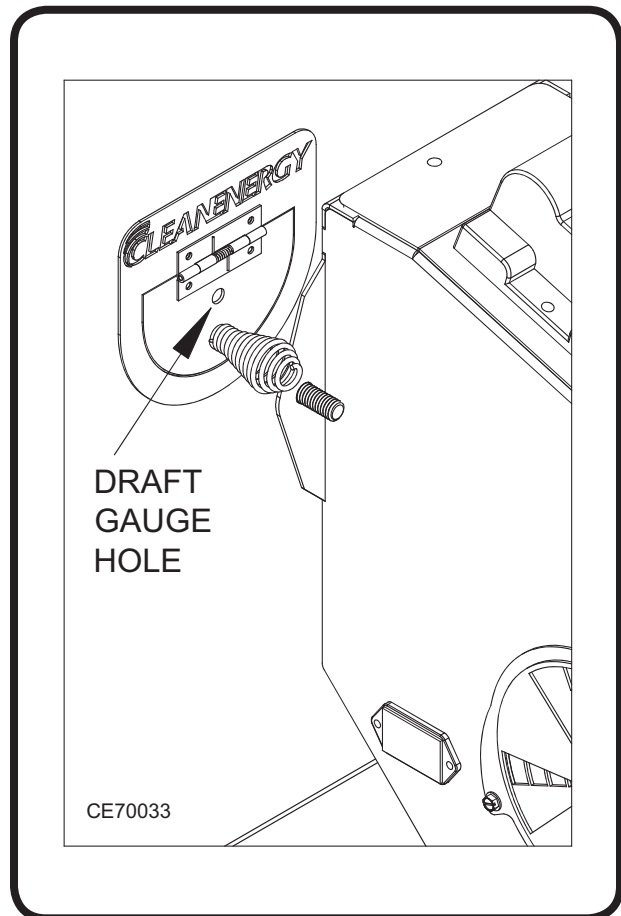

Figure 27: Draft Gauge Hole in the Observation Port
- (1) Allow the furnace to run for 5 to 10 minutes.
- (2) Refer to Figure 27 to locate the draft gauge hole.
- (3) Insert a draft gauge through the hole in the observation port. Follow the manufacturers instructions for adjusting the barometric damper to obtain -0.02" w.c. draft over fire.
- (4) If a proper draft is not obtained, follow the instructions below to check for a vacuum in your building.